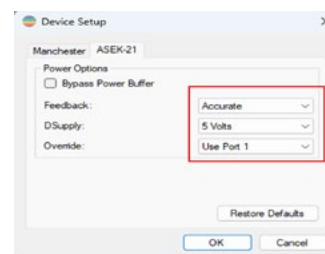
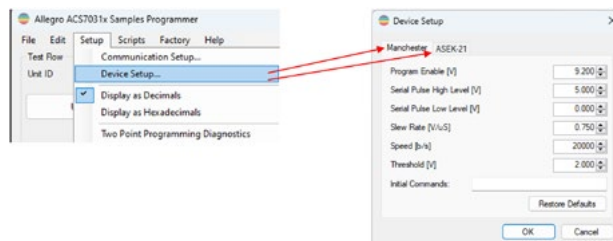

Figure 6: Device Setup panel defining Manchester communication levels
Figure 7: Device Setup panel defining ASEK-21 power options
2. Navigate into the setup menu and select “Device Setup” (Figure 6). A new panel opens, as shown in figure 7. Select the ASEK-21 tab and verify that the settings in the panel are set as follows: